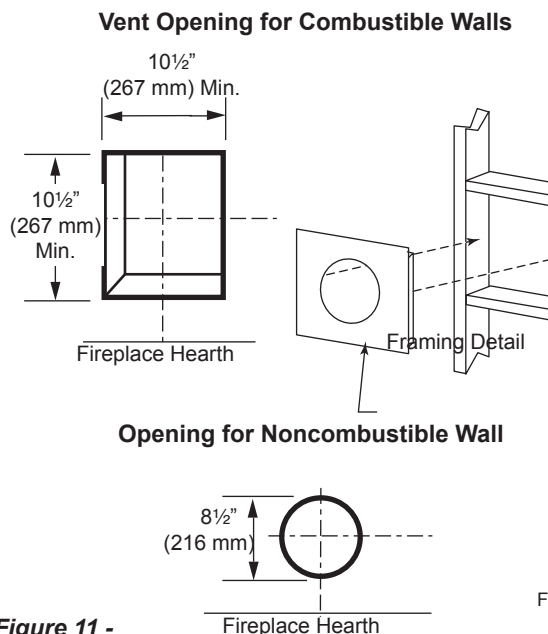

**Figure 11 -**
Locate vent opening on the wall. It may be necessary to first position the fireplace and measure to obtain hole location. Depending on whether the wall is combustible or noncombustible, cut opening to size. *Figure 11* (For combustible walls first frame in opening.)
**Combustible Walls:** Cut a 10½"H x 10½"W (267 x 267 mm) hole through the exterior wall and frame as shown. *Figure 11*